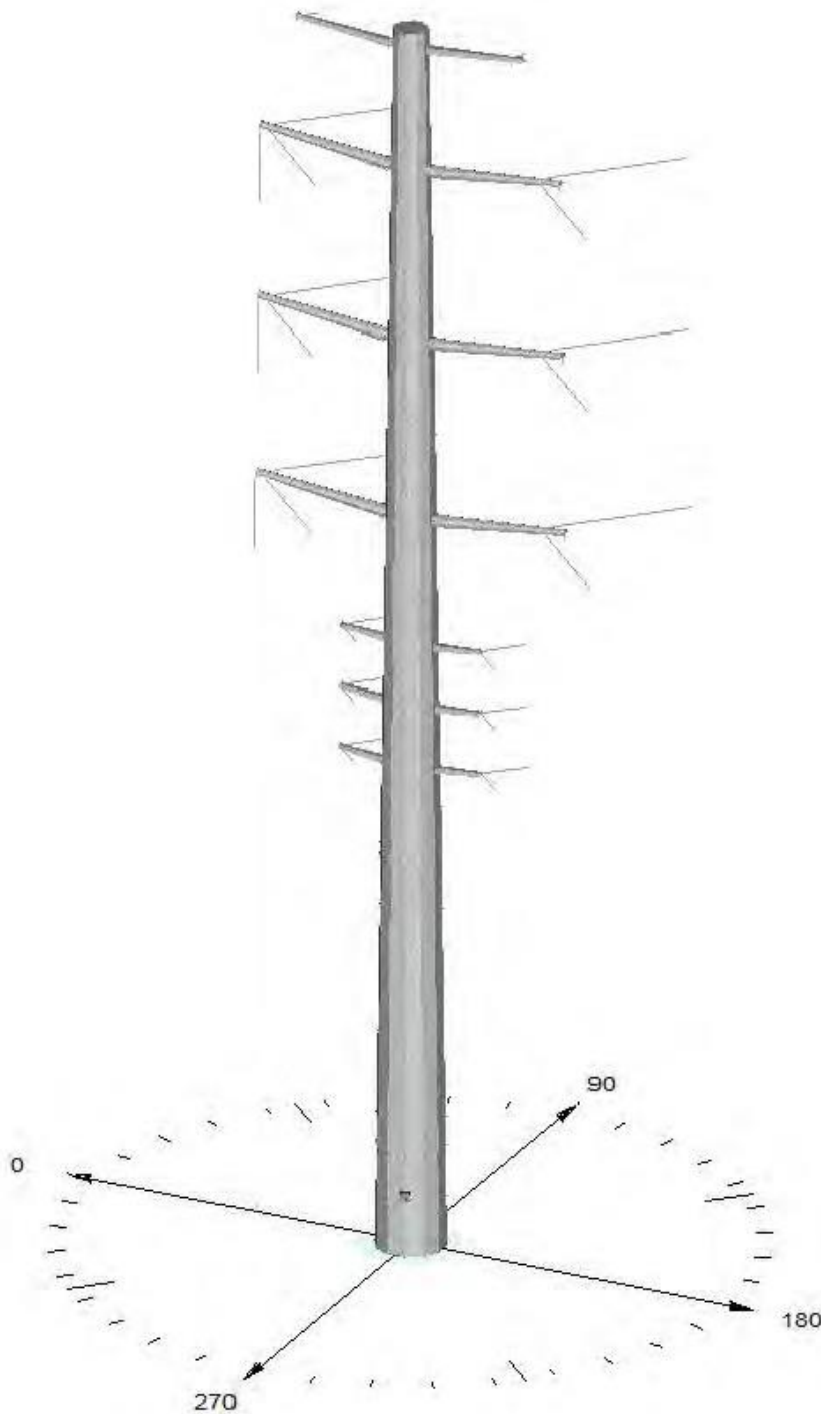

FIGURE G-17
- Figure G-17: Double-Circuit 230 kV Tubular Steel Structure (Pole) with 69 kV Underbuild, Vertically Stacked Configuration with Post Insulators